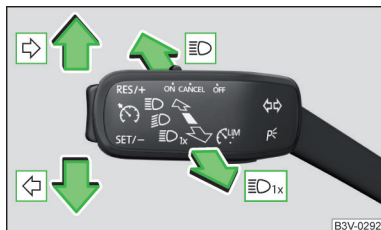

Fig. 65
Control stalk positions » Fig. 65
- Press the control lever all the way into position  or  until it stops » Fig. 65 on page 71.